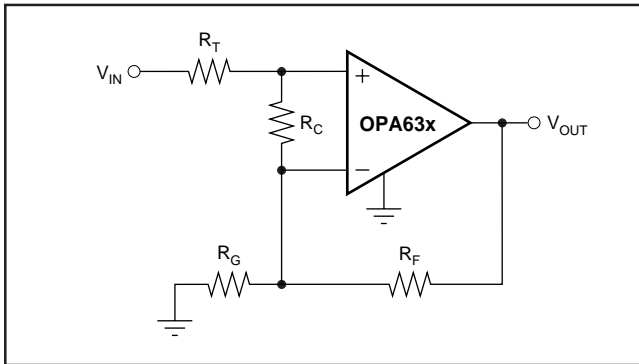

FIGURE 4. Compensated Non-Inverting Amplifier.
Figure 4 shows a non-inverting amplifier that reduces peaking at low gains. The resistor R_C compensates the OPA634 or OPA635 to have higher Noise Gain (NG), which reduces the AC response peaking (typically 5dB at $G = +1$ without R_C) without changing the DC gain. V_{IN} needs to be a low impedance source, such as an op amp. The resistor values are low to reduce noise. Using both R_T and R_F helps minimize the impact of parasitic impedances.
Since the OPA634 and OPA635 are voltage feedback op amps, a wide range of resistor values may be used for the feedback and gain setting resistors. The primary limits on these values are set by dynamic range (noise and distortion) and parasitic capacitance considerations. For a non-inverting unity gain follower application, the feedback connection should be made with a 25Ω resistor, not a direct short (see Figure 4). This will isolate the inverting input capacitance from the output pin and improve the frequency response flatness. Usually, for $G > 1$ application, the feedback resistor value should be between 200Ω and $1.5k\Omega$. Below 200Ω , the feedback network will present additional output loading which can degrade the harmonic distortion performance. Above $1.5k\Omega$, the typical parasitic capacitance (approximately $0.2pF$) across the feedback resistor may cause unintentional band-limiting in the amplifier response.
The criterion for setting this R_S resistor is a maximum bandwidth, flat frequency response at the load. For a gain of $+2$, the frequency response at the output pin is already slightly peaked without the capacitive load, requiring relatively high values of R_S to flatten the response at the load. Increasing the noise gain will also reduce the peaking (see Figure 4).
Resistors should be a very low reactance type. Surface-mount resistors work best and allow a tighter overall layout. Metal film or carbon composition axially-leaded resistors can also provide good high frequency performance. Again, keep their leads and PC board traces as short as possible. Never use wirewound type resistors in a high frequency application. Since the output pin and inverting input pin are the most sensitive to parasitic capacitance, always position the feedback and series output resistor, if any, as close as possible to the output pin. Other network components, such as non-inverting input termination resistors, should also be placed close to the package. Where double-side component mounting is allowed, place the feedback resistor directly under the package on the other side of the board between the output and inverting input pins. Even with a low parasitic capacitance shunting the external resistors, excessively high resistor values can create significant time constants that can degrade performance. Good axial metal film or surface-mount resistors have approximately 0.2pF in shunt with the resistor. For resistor values >1.5kΩ, this parasitic capacitance can add a pole and/or zero below 500MHz that can effect circuit operation. Keep resistor values as low as possible consistent with load driving considerations. The 750Ω feedback used in the typical performance specifications is a good starting point for design. See Figure 4 for the unity gain follower application.